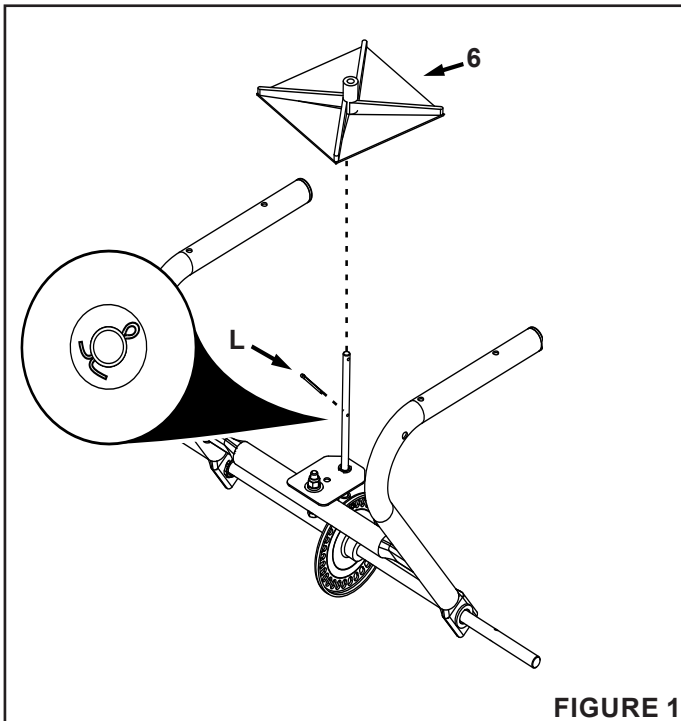

FIGURE 1
STEP 1: (SEE FIGURE 1)
- Attach the impeller (6) to the impeller shaft using a small cotter pin (L) and bending the ends around the shaft to secure it. See figure 1.